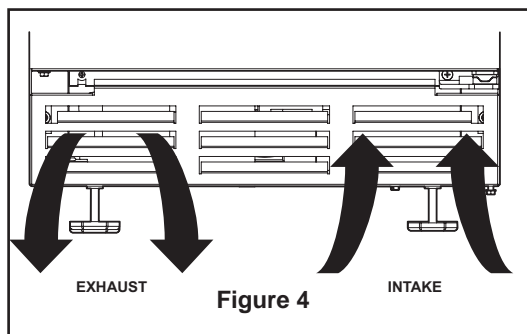

Figure 4
- 8 Position the unit to allow free air flow through the front grille (see Figure 4).